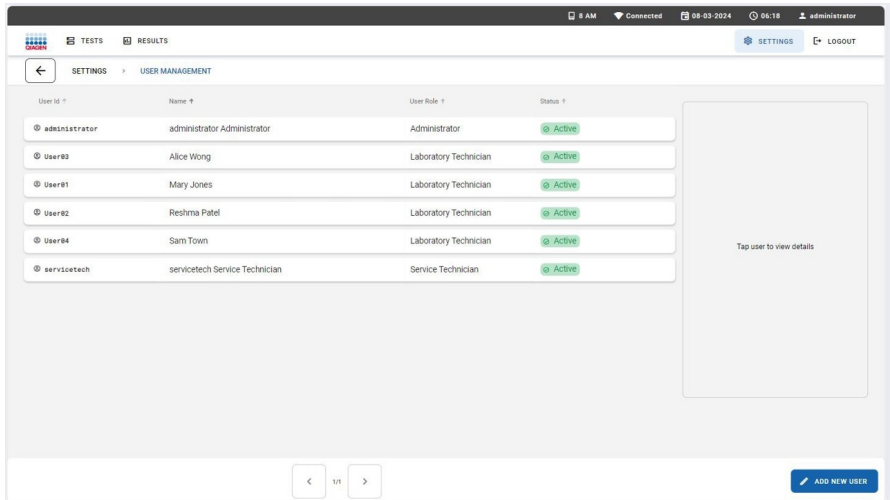

Figure 69. User Management.
2. Select the User Management menu to view the users that can access the QIAstat-Dx Rise (Figure 69). The properties of the user profile are described in Operating Procedures.